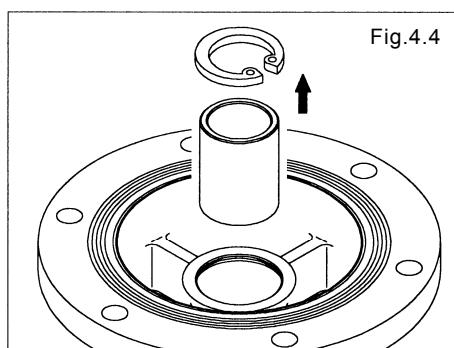

Fig.4.4
- Remove the C type snap ring, and remove the throat bearing from the air chamber. [Fig.4.4]